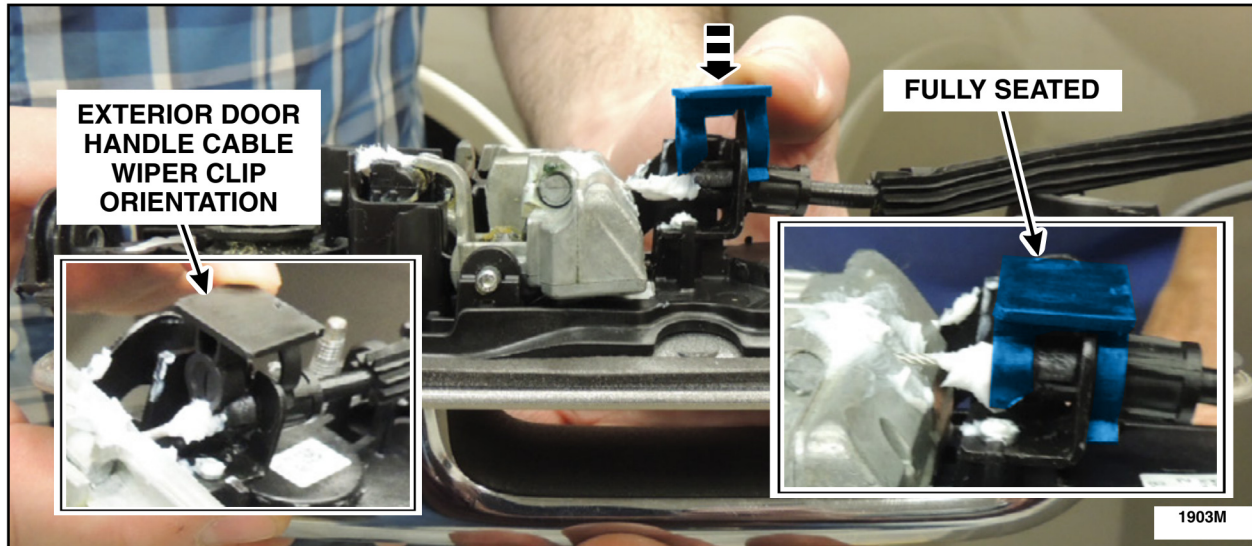

FIGURE 59
40. Install a *new* handle cable wiper clip on the exterior door handle cable end. See Figure 59.